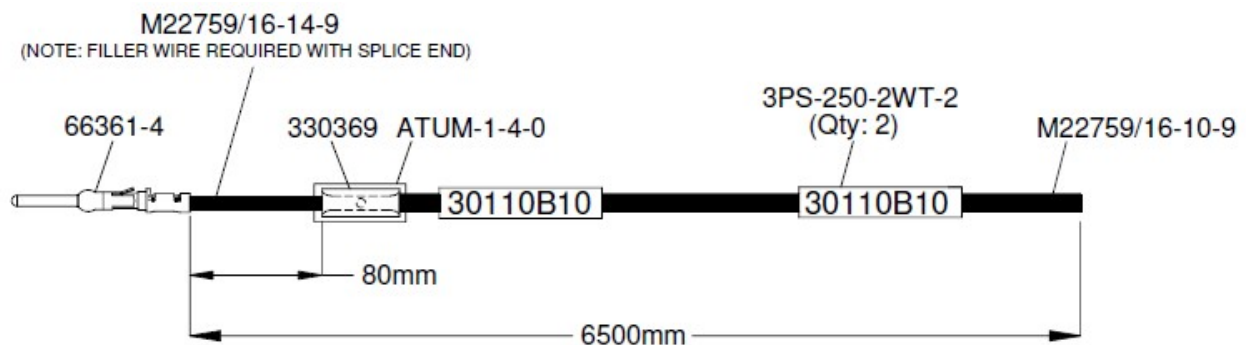

Figure 43: Preparation of High Thermal Limit Switch Wire
13.2.1.1 Prepare the High Thermal Limit Switch wire according to Figure 43.